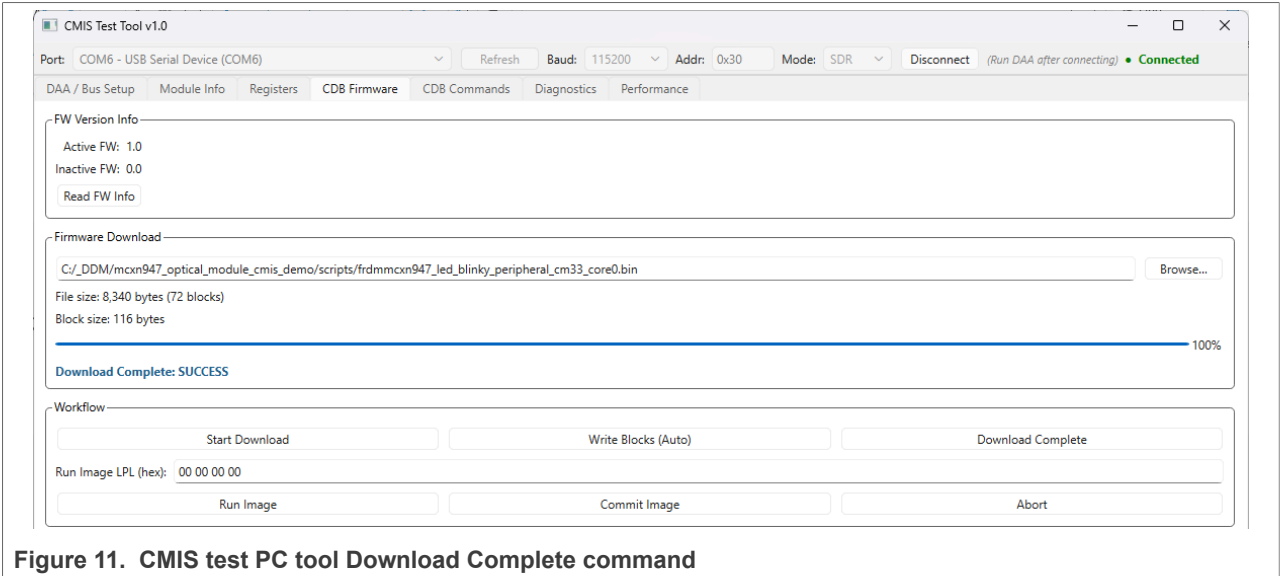

Figure 11. CMIS test PC tool Download Complete command
9. The user must then click the **Download Complete** command button to verify that the downloaded firmware is valid. After clicking the **Download Complete** button, a log message such as **Download Complete: SUCCESS** is displayed, indicating that the downloaded firmware is valid, as shown in Figure 11.